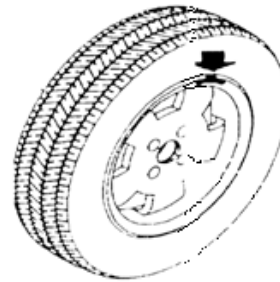

Figure10-2
10.2.4 Slowly rotating wheel, when outside counterweight position indicator light all on, and show "OK", clip correspond counterweight on 12 o'clock position outside of rim, Figure 10-2;